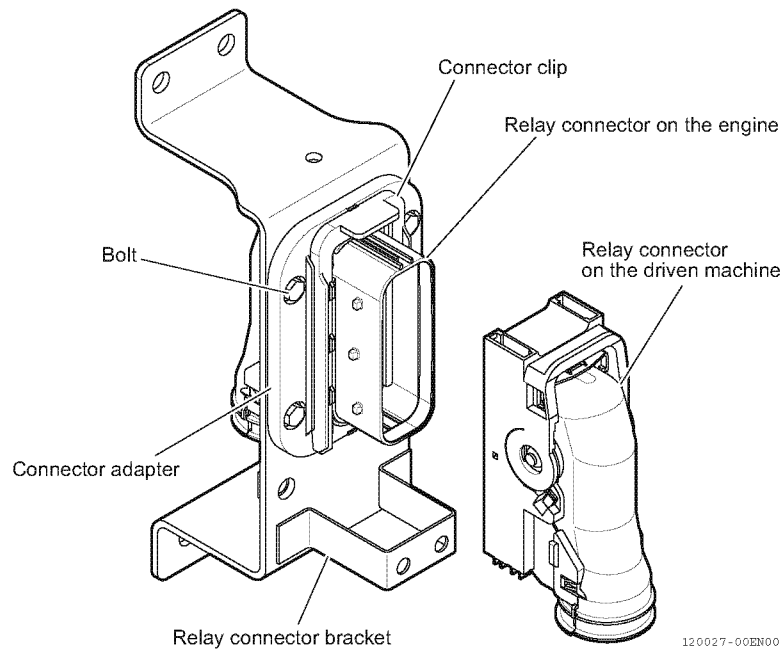

Fig.70-17
5. The structure of the relay connector is shown in Fig.70-17. The engine relay connector is inserted to the connector adapter fitted to the relay connector bracket with bolts, and fastened using the connector clip.